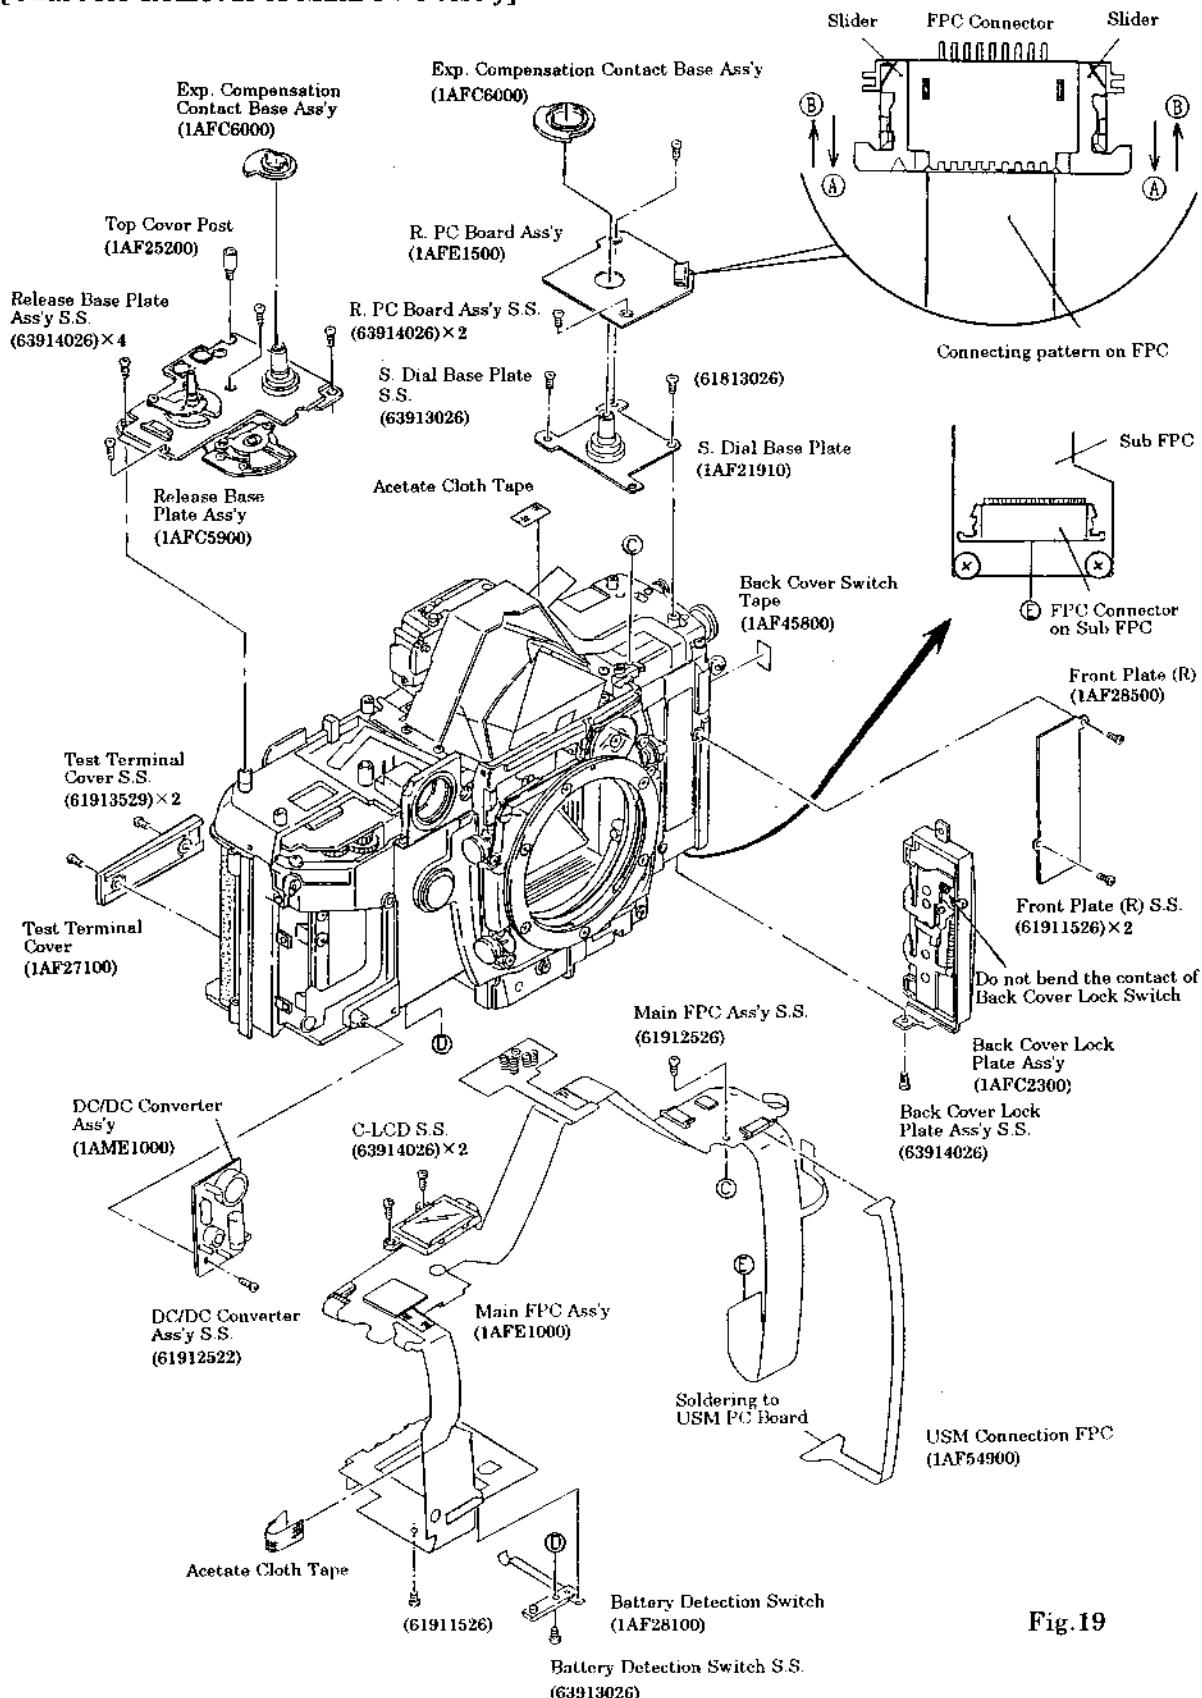

Fig.19
\* This camera uses an FPC Connector to connect an FPC to a Board or an FPC to another FPC. To disconnect an FPC from the FPC Connector, move the two sliders of the FPC Connector in the direction of the arrow (A) and remove the FPC. (See Fig.19)
To set an FPC into the FPC Connector, clean the connecting pattern of the FPC with lens cleaning paper with ether alcohol, insert the connecting pattern of the FPC into the FPC Connector and move the two sliders in the direction of the arrow (B). (See Fig.19)
(See Figs. 19 and 20)
(Top left of Body) (See Figs. 19 and 20)
(Bottom of Body) (See Figs. 19 and 20)
(See Fig. 19)